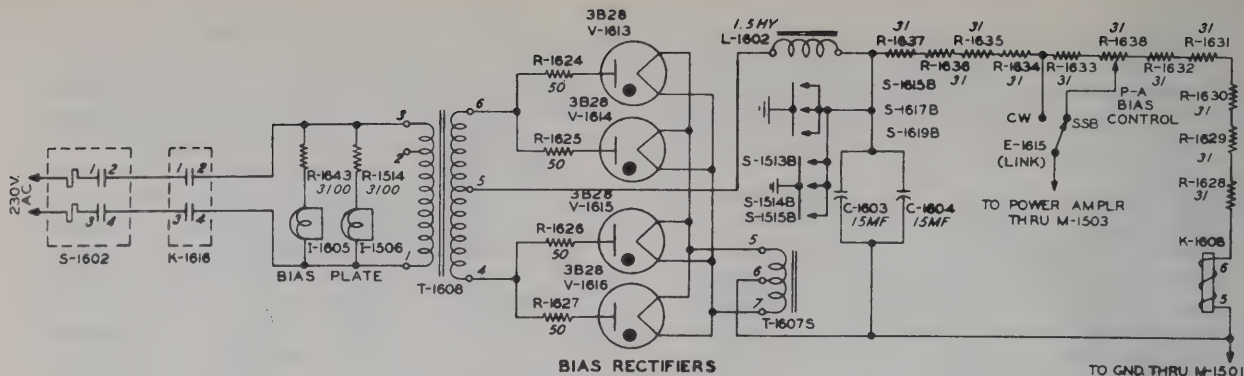

Figure 127. Power Supply Assembly PP-1089/FRT-22, Bias Supply, Schematic Diagram.
- (1) *Bias supply (fig. 127).* The bias supply for the power amplifiers is a single-phase full-wave rectifier circuit using four 3B28 xenon gas-filled tubes. Two tubes are operated in parallel at each of the rectifier positions. Load-dividing resistors are used with each pair of tubes to guarantee that each tube handles one-half of the current. The supply delivers 500 volts negative to ground and is loaded by eleven resistors, R-1628 through R-1637, to about 1.5 amperes. The voltage to the grids of the power amplifiers may be adjusted by a variable tap on the bleeders. When the power amplifiers are drawing grid current, this current is in opposition to that through the bleeders. Hence the current through the bleeder falls to about 0.2 amp. The filter is a single-section choke-input filter. A portion of the bleeder current must flow through the operating coil of interlock relay K-1608. This relay must be closed before the high voltage